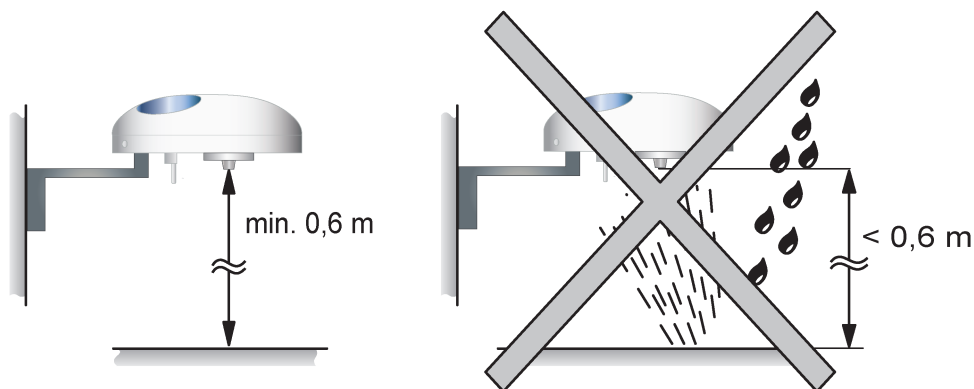

Figure 2: Minimum distance to surfaces
- Attach the fastening arm enclosed with the weather station to a suitable wall. In so doing, always ensure the minimum distance to the surfaces beneath (see figure 2).